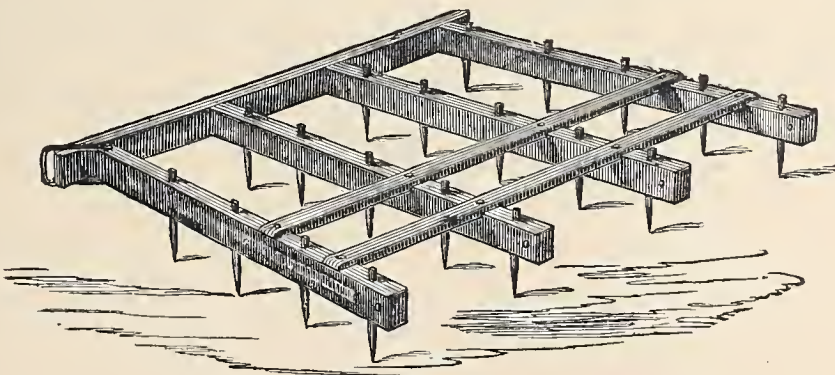

Fig. 330.—Square Harrow.
*The Square Harrow*, represented by *Fig. 330*, is in common use in some sections. They are made of various sizes.